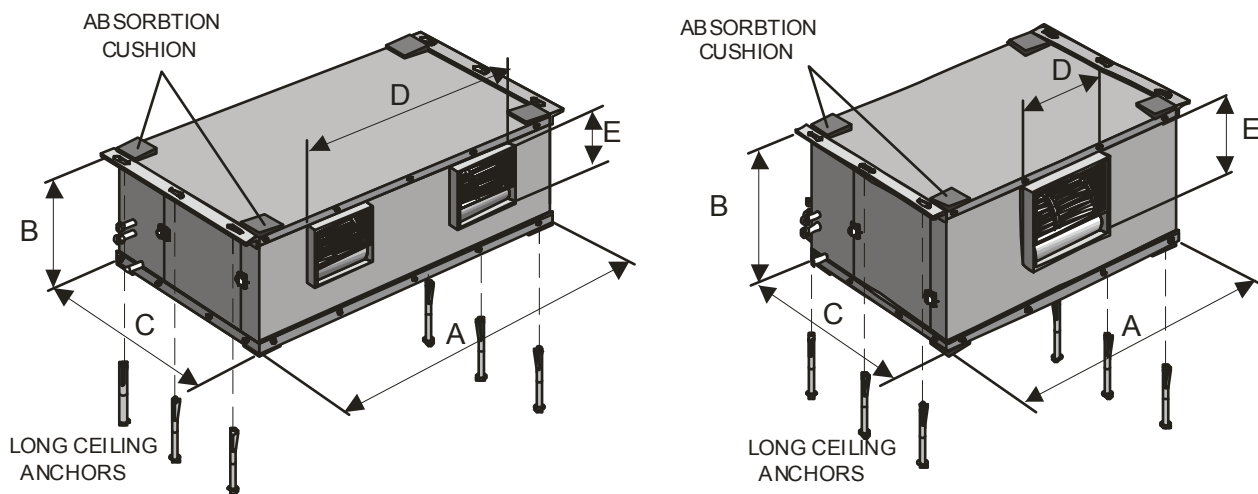

Fig. 6-4
- Stick four rubber absorption cushions on the four corners of the base, as shown in Fig. 6-4.
- Attach the unit to the ceiling using the long anchor screws, as shown in Figure 6-4.